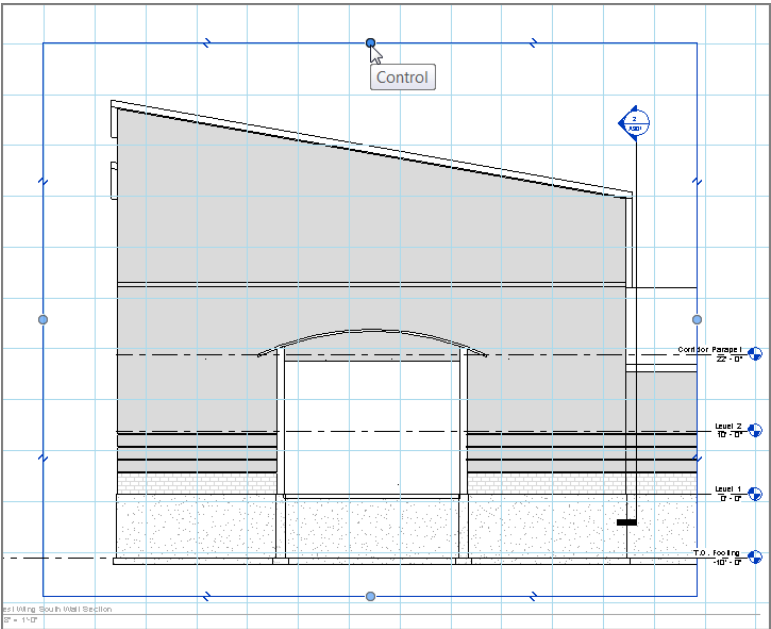

FIGURE 14.11: Stretching the crop region so you can see the entire view
5. With the view activated, you can work on it just as if you had opened it from the Project Browser. Select the crop region, as shown in Figure 14.11.